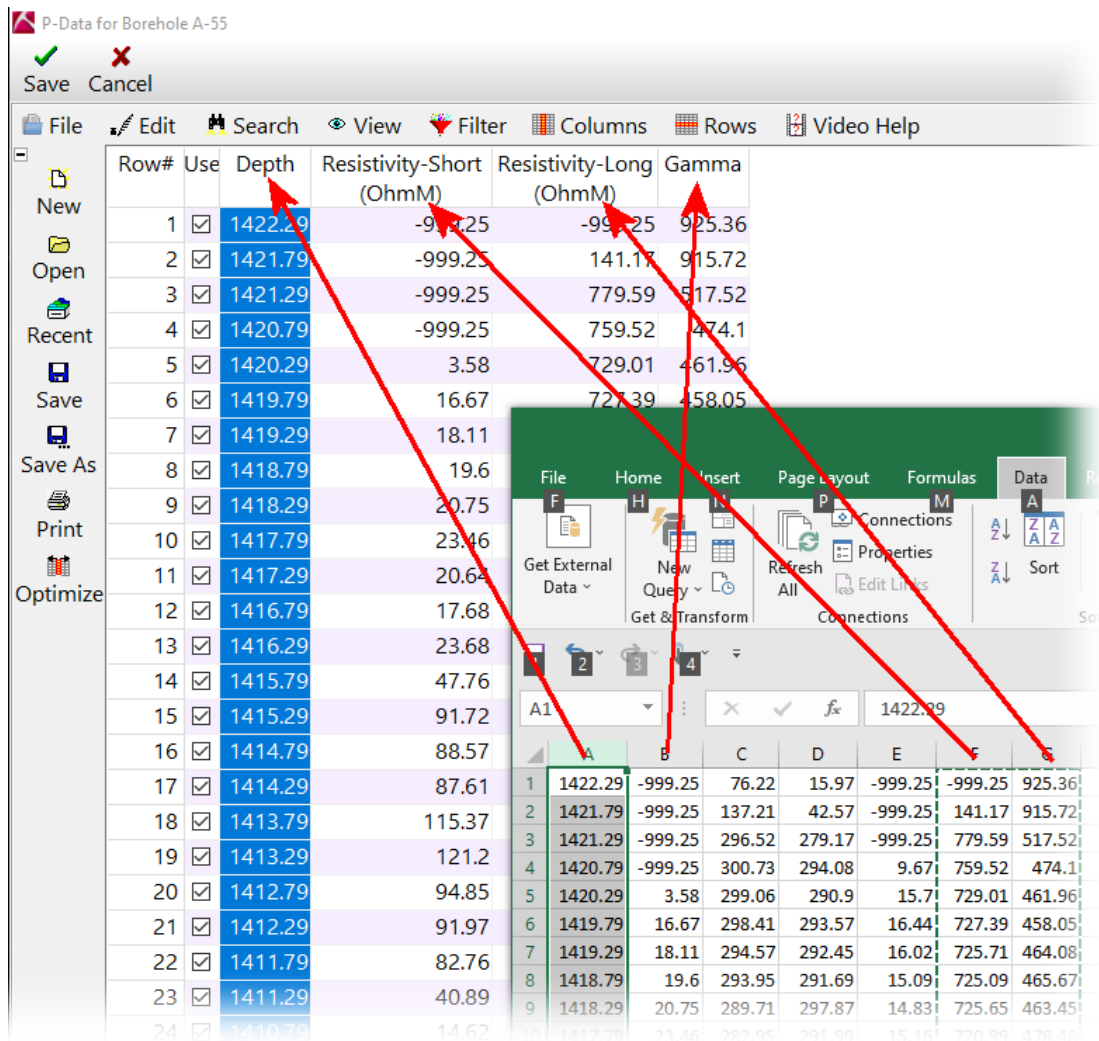

Figure 8
- Starting with the Depth column, copy and paste the appropriate columns of data from the Excel spreadsheet to the appropriate columns within the P-Data Datasheet (Figure 8).